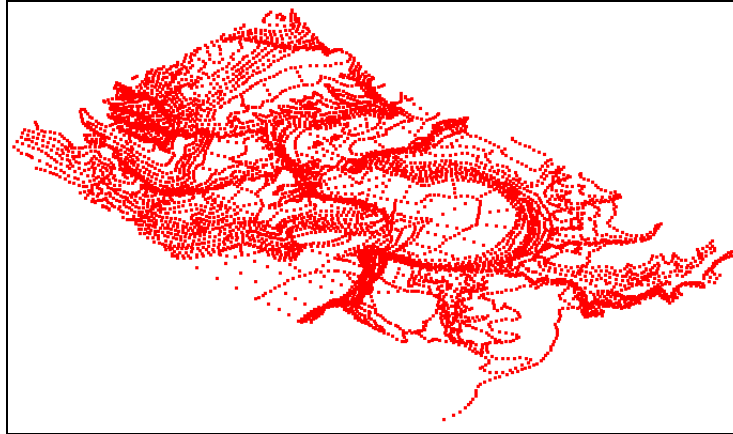

Figure 8 Example scatter set rotated to show elevation
6. Select the **Rotate**  tool then click and drag in the Graphics Window to view the elevation in the scatter set (Figure 8).